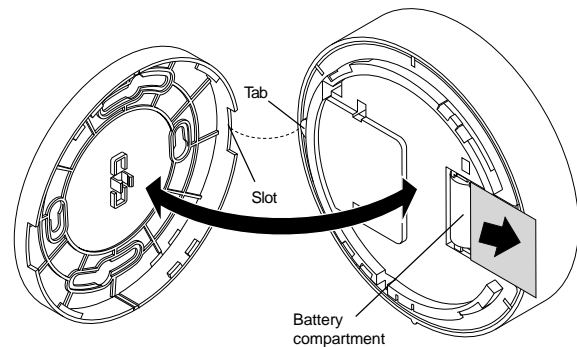

Figure 3 - Alarm/Detector-to-Base Alignment
1. Slide the battery compartment cover away from the alarm/detector to unsnap it and lift it off. See Figure 3.
- Line up the raised tab on the lip of the alarm/detector with the slot on the lip of the mounting base. See Figure 3.
- Line up the raised tab on the lip of the smoke alarm/detector with slot on the lip of the mounting base. See Figure 3.
2. Slide the battery compartment cover away from the alarm/detector to unsnap it and lift it off. See Figure 3.